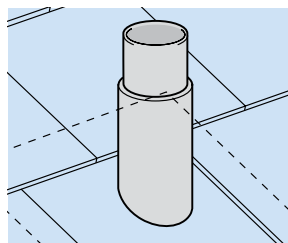

Fig. 63
- Position purpose-made weathering slate on open end of soil stack (Fig. 63).